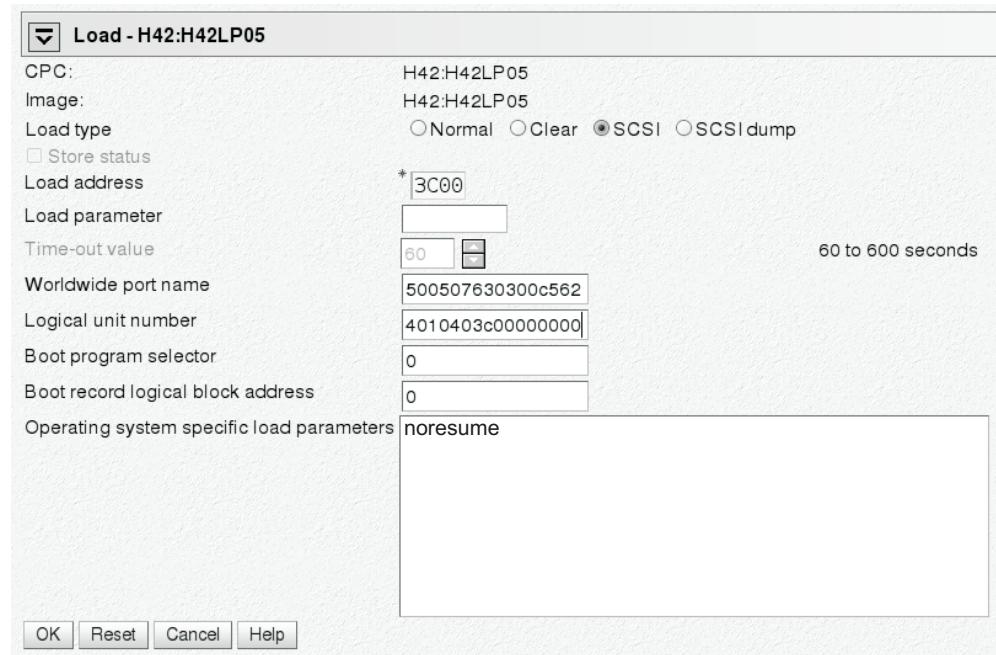

Figure 66. Load panel with *SCSI* feature enabled - for booting from a *SCSI* device
- a. Select load type **SCSI** (see Figure 66 on page 386).